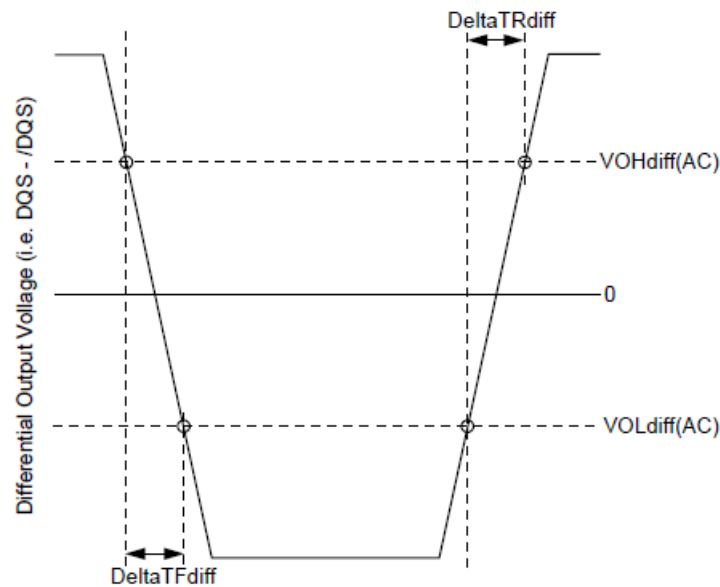

Figure 3-9 Differential Output Slew Rate Definition
With the reference load for timing measurements, output slew rate for falling and rising edges is defined and measured between VOLdiff(AC) and VOHdiff(AC) for differential signals as shown in Table 3-16 and Figure 3-9.